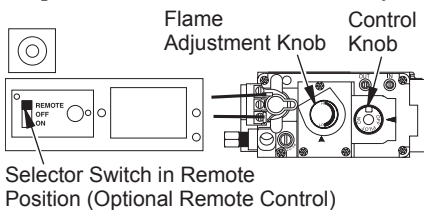

Figure 41 - Setting the Selector Switch, Control Knob and Flame Adjustment Knob for Remote Operation
1. After lighting, let pilot flame burn for about one minute. Turn control knob to ON position. Adjust flame adjustment knob anywhere between HI and LO. Slide the selector switch to the REMOTE position (see Figure 41). **Note:** The burner may light if hand-held remote was on when selector switch was last turned off. You can now turn the burner on and off with the hand-held remote control unit.